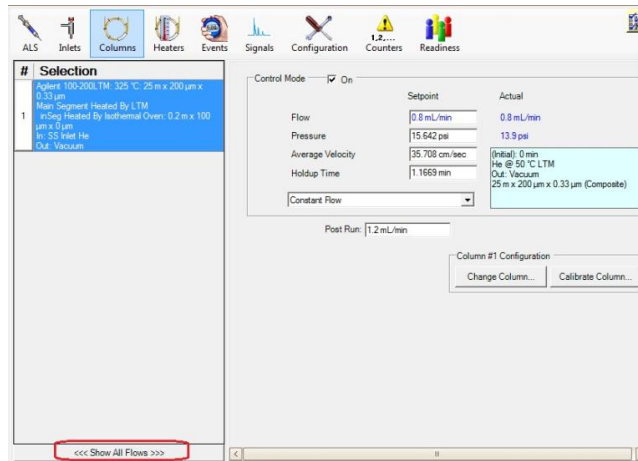

Figure 15 Showing the Aux EPC Control Mode
10. Set the gas flow on Edit GC Parameters > Columns > Show All Flows > Aux EPC 1. (See Figure 15/16)